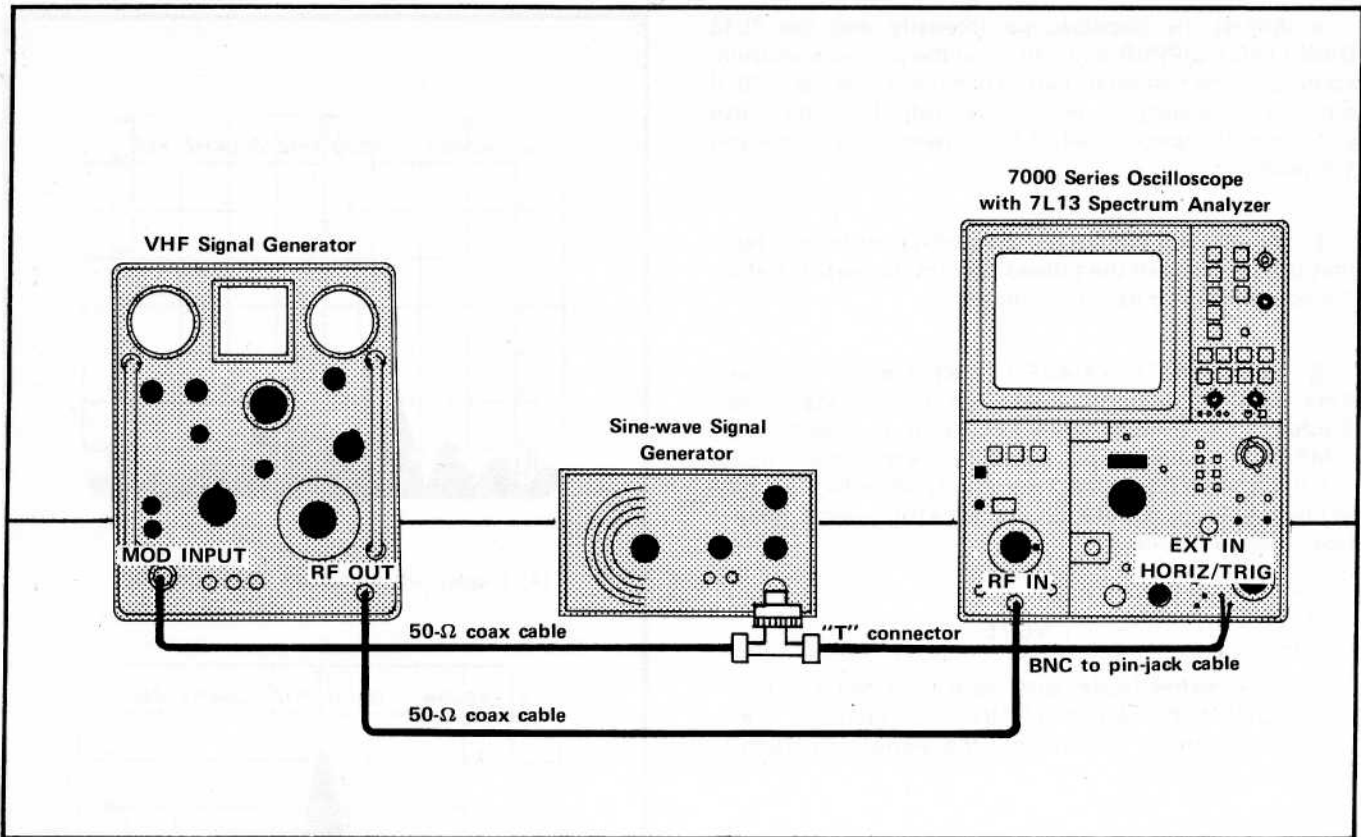

Fig. 3-9. Equipment setup to check triggering operation.
b. Apply a 10 kHz signal from the sine wave signal generator; through a "T" connector, BNC to BNC cable, and BNC to pin-jack cable, to both the EXT IN HORIZ/TRIG jacks on the 7L13 and the External Modulation Input of the VHF signal generator (see Fig. 3-9).